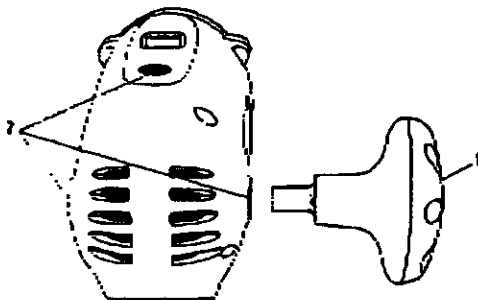

Fig. 4
To install handle (1), simply insert the threaded portion into one of the three threaded holes provided (2) and turn clockwise until tight (see Fig. 4).